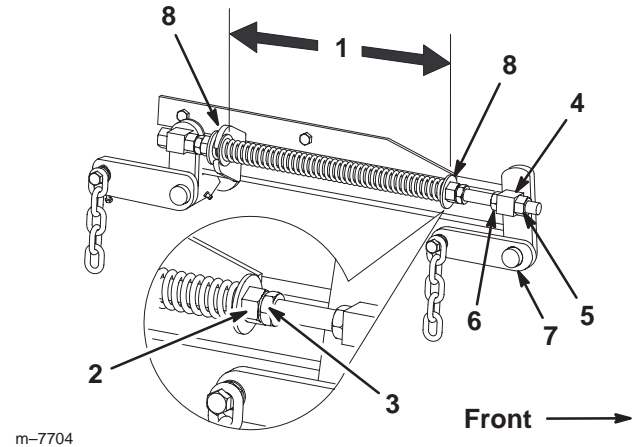

Figure 54
- Loosen the front swivel jam nuts, at the front of the right and left swivels, approximately 1/2 inch (13 mm) (Fig. 54).
- Adjust the lift nuts on both the left and the right side of the machine to achieve **1/4 to 3/8 inch (6 to 10 mm) lower in front at A than in the rear at B** (Fig. 54).
- Raise the mower lift lever to the transport position (Fig. 54).
- Check the distance between the 2 large washers; it must be 10-1/4 inches (26 cm) (Fig. 54).
- Adjust this distance by loosening the spring jam nut and turning the nut in front of each spring (Fig. 54).
- Lock the nut into position by tightening the spring jam nut (Fig. 54).